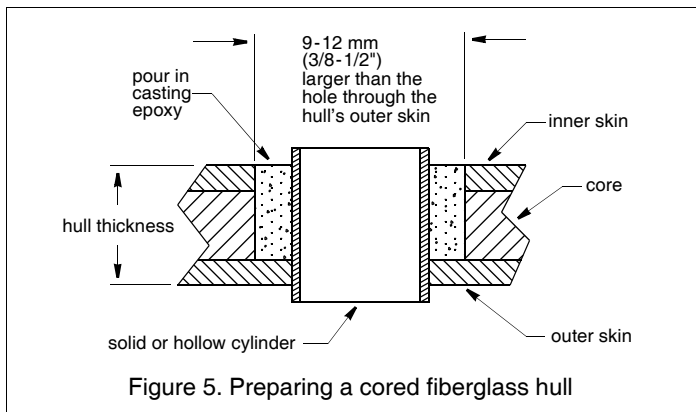

Figure 5. Preparing a cored fiberglass hull
- Using a 51 mm or 2" hole saw, cut the hole from outside the hull through the *outer* skin only (see Figure 5).